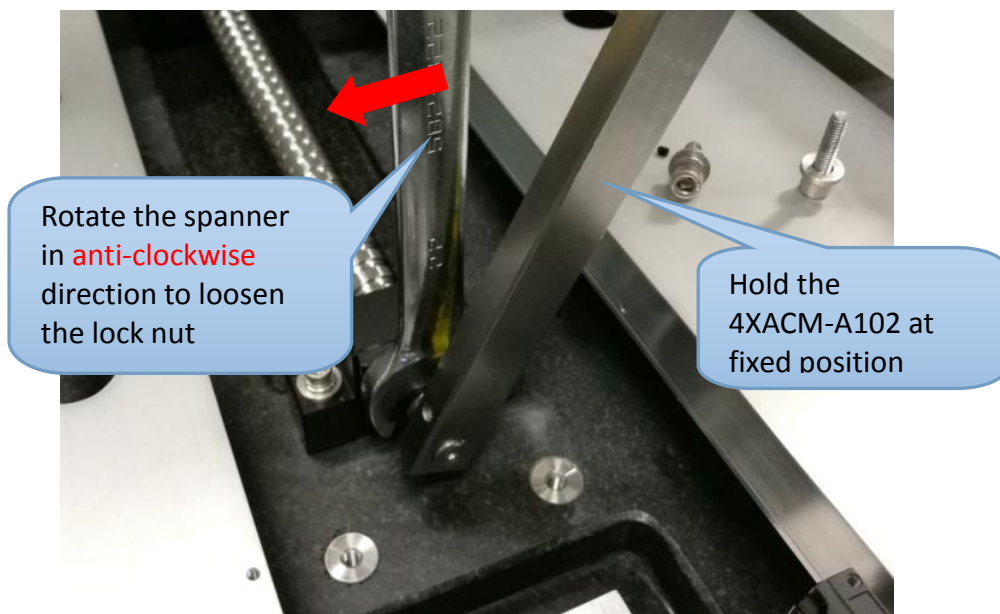

Figure 10 Lock nut loosen
13. Loosen lock nut as below Figure 10